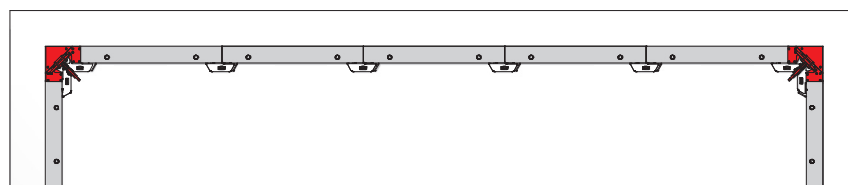

Fig. 31.2
1. Remove the assembly locks connecting the stripping corners to the panels (Fig. 31.2).